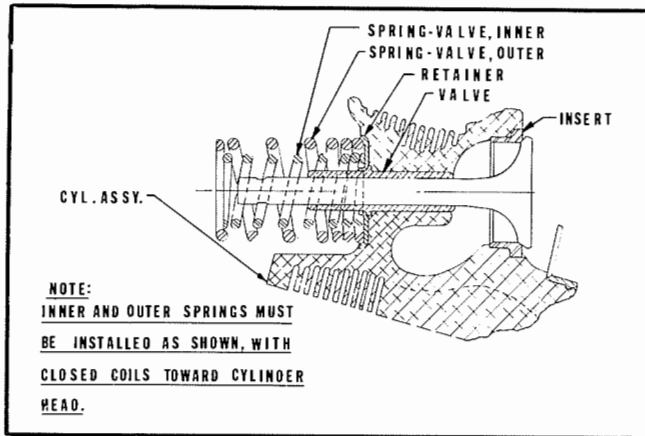

Figure 7-1. Valve Spring Installation
b. Place valve spring retainers (34) over valve guide (40) cupped side up. Install inner and outer valve springs (33, 32), per instructions in figure 7-1, outer retainer (31) and rotator (30). (See figure 2.) Compress springs and install keys (29). Make certain keys are properly seated before releasing pressure on springs. Remove cylinder from fixture and set it upright on a bench. Strike end of each valve stem sharply with a rawhide mallet to seat stem keys.
c. Install new packing (28) on each cylinder skirt. Push against flange and make certain none are twisted. Coat cylinder bore walls thoroughly with Cities Service No Scuff Oil No. 9028 or castor oil.